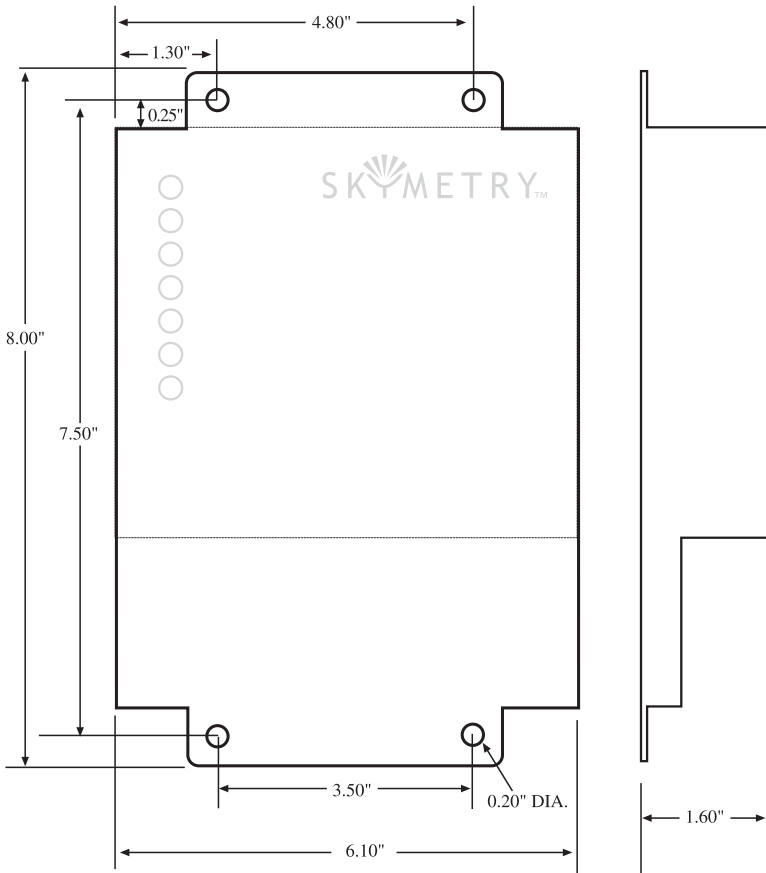

Figure 1: Skymetry mounting
The unit should be mounted using four #10-32 bolts where appropriate, or four #10 tapping screws. (The screw kit for the Skymetry WTU-14 includes (4) #10-32 screws, (4) #10-32 nuts, and (4) #10 lockwashers). When mounting the unit to a wall, make sure the mounting screws fully engage a solid member (for example, a stud) of the support structure. Mount the Skymetry WTU-14 in an upright position so that you can easily connect wires to the terminal strips. The dimensions of the enclosure are: 8.0" x 6.1" x 1.6". See Figure 1.